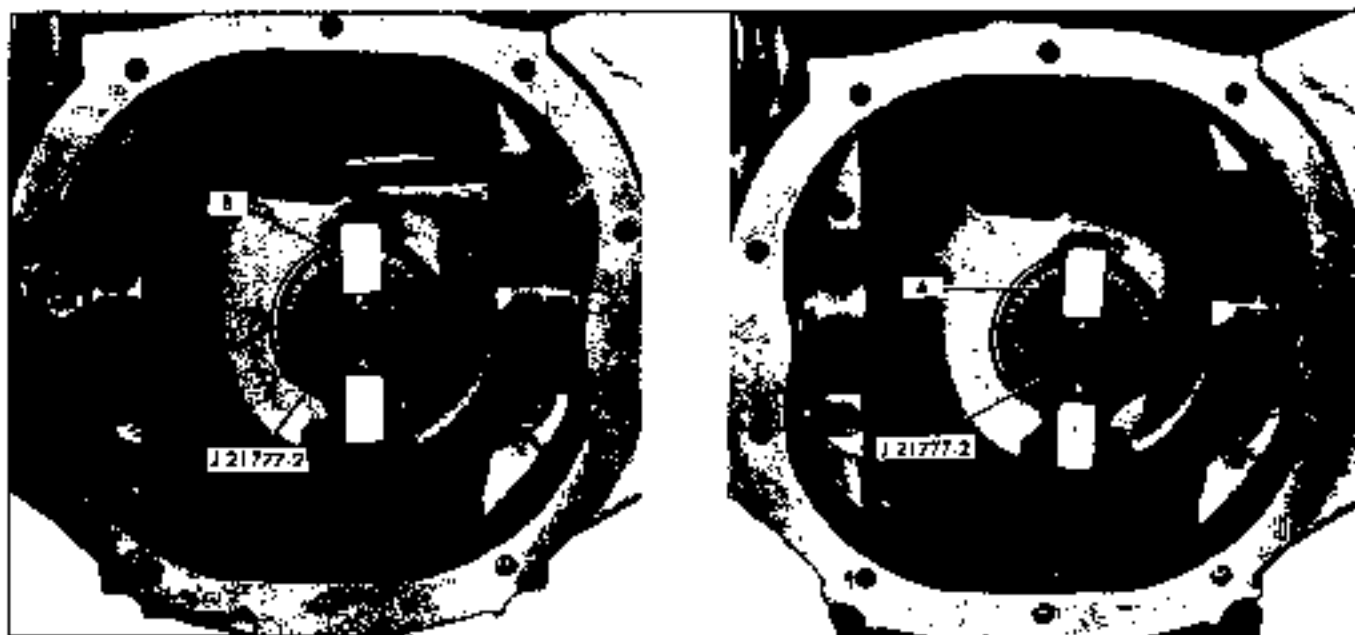

Fig. 4A-39 Gauge Plate installed
NOTE: Pontiac - Fifteen (15) shims are available in increments of (.002") two thousandths from .020" to .050" (Fig. 4A-41).
Tempest, Firebird, or Grand Prix - Ten (10) shims are available in increments of (.002") two thousandths from .020" to .038" (Fig. 4A-41).